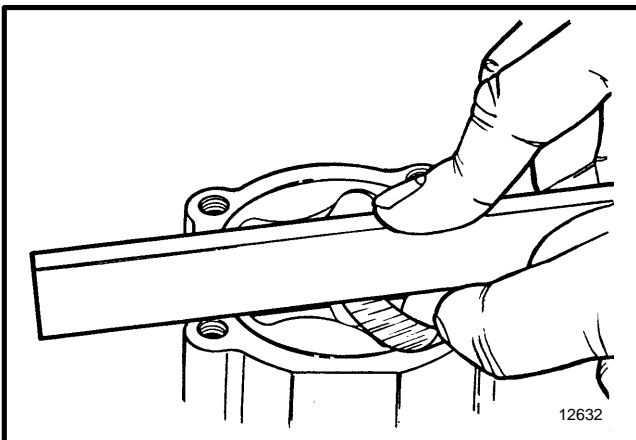

FIGURE 60. CHECK THE END CLEARANCES OF THE ROTOR
3. Check the end clearances of the rotor. If the clearance is greater than 0.27 mm (.011 inch), replace the oil pump. See FIGURE 60.